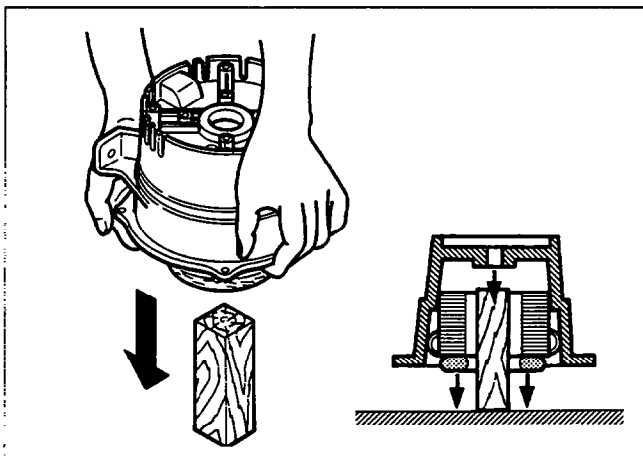

Fig. 10-15
<p>(2) Put a piece of lumber on the floor in upright position. (See Fig. 10-15.)</p>